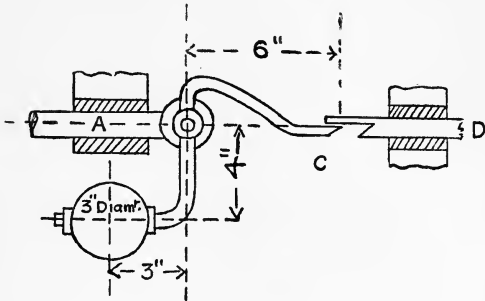

Fig 1
1. A simple form of "hit and miss" governor for a gas engine is illustrated in fig. 1. The rod A is moved to and fro by means of a cam and carries with it the bent lever C having a solid ball B at one extremity. If the forward acceleration of A is sufficiently great, the inertia of the ball causes the end of C to fall clear of the push piece D which operates the gas inlet valve.